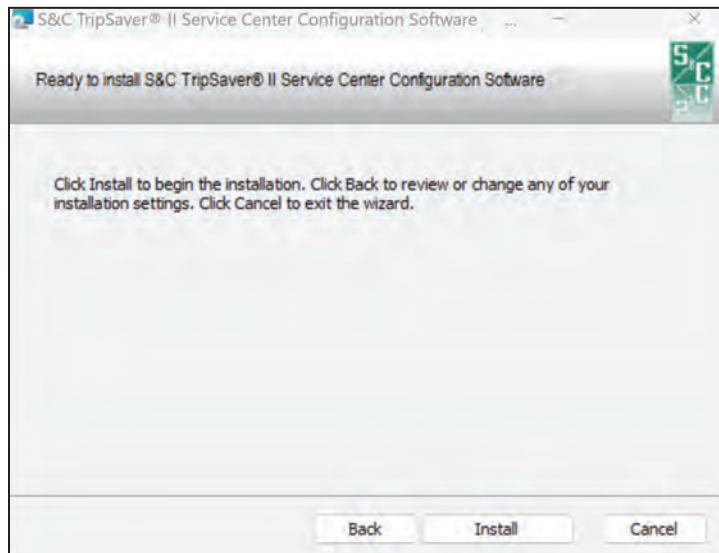

Figure 6. The Ready to Install dialog box.
**STEP 5.** When the installation folder has been selected, the Ready to Install dialog box opens. See Figure 6. Click on the **Install** button to begin the installation. Click on the **Back** button to review or change the settings, or click on the **Cancel** button to quit the installation process.